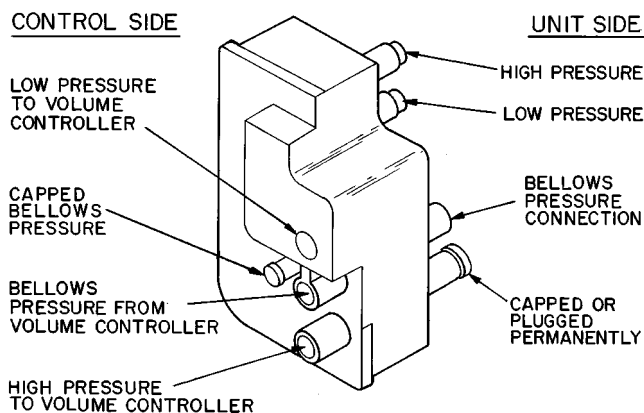

Fig. 24 — Filter/Manifold Connections
4. To prepare the control filter for installation, be sure that the bellows chamber filter plug is pushed tightly into the correct connection. Figure 24 shows the connection ports on both sides of the filter. The lower bellows port on the unit side and the small bellows pressure connection on the control side should be capped or plugged before installation.